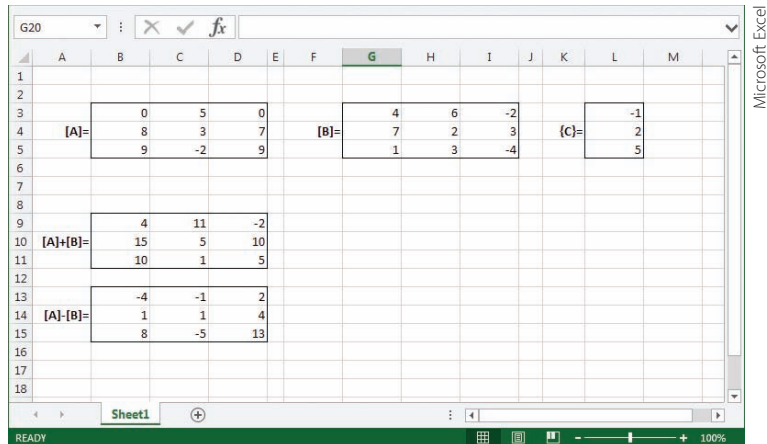

FIGURE 14.38
- Next, in the Formula bar, type $= B3:D5 + G3:I5$, and while holding down the **Ctrl** and the **Shift** keys, press the **Enter** key. Note that using the mouse, you could also pick the ranges of B3:D5 or G3:I5 instead of typing them. This sequence of operations will create the result shown in Figure 14.38. A procedure similar to the one outlined in step 2 is used to perform $[A] - [B]$, except in the Formula bar type $= B3:D5 - G3:I5$.